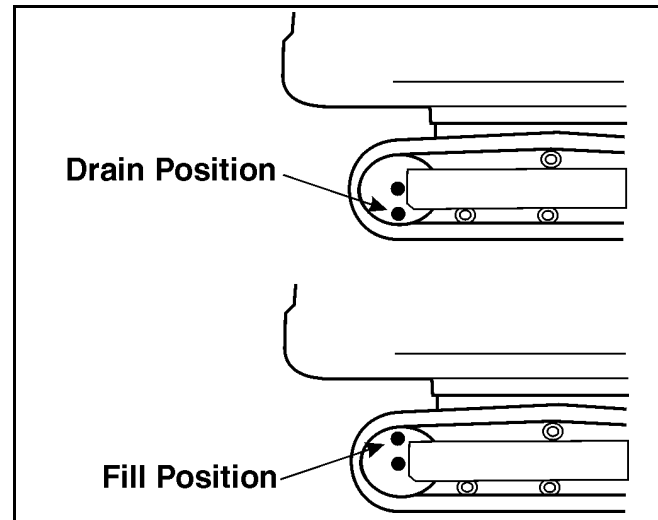

Figure 4-19 Track Final Drive Oil Change
1. Position the machine on a level surface with final drive plugs positioned as shown in “Drain Position” (Figure 4-19). Turn off the engine.
4. Start the engine and move the machine slightly until plugs are positioned as shown in “Fill Position” (Figure 4-19). Turn off the engine.